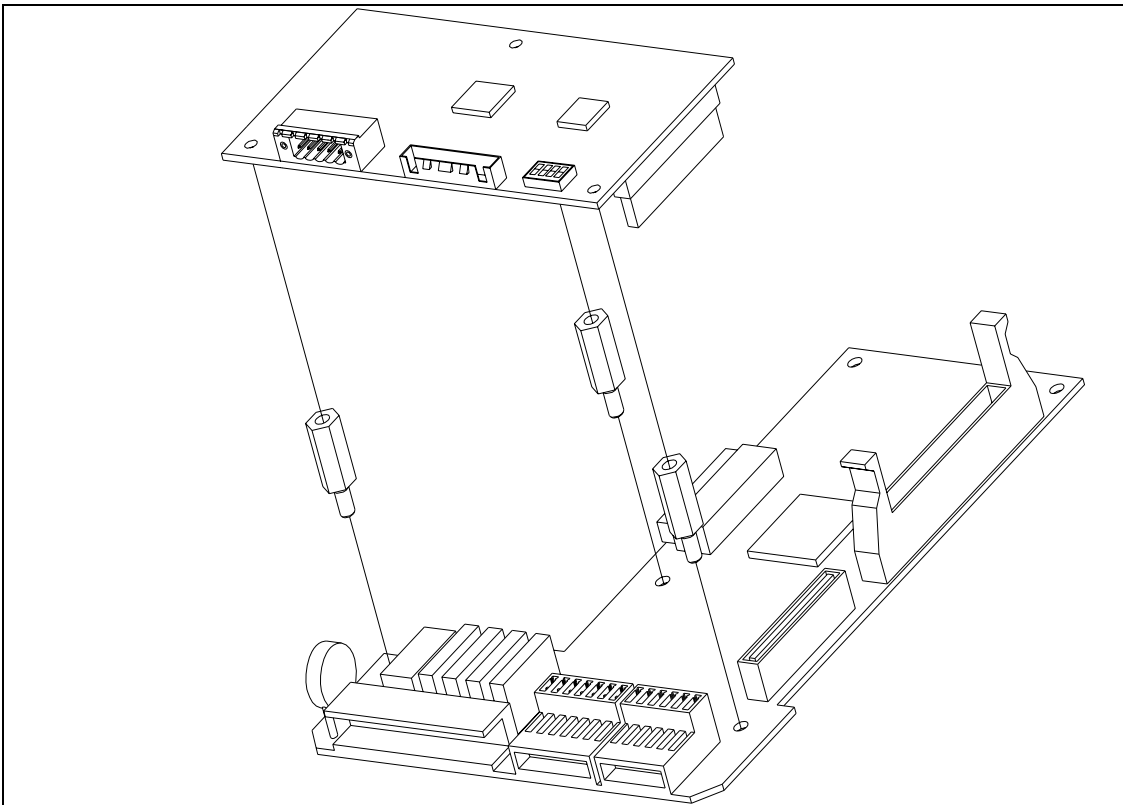

Figure 3. SV-iP5A RS485 Option Board Installation
- ① Connect RS485 option board connector to the option connector inside the inverter control board. (See Figure 3 and 4). Make sure that the support is well connected. If the position of the support is not right, it means that the option board is not connected correctly.
- ② Power up the inverter after verifying the option board is installed properly.
- ③ When powering up the inverter, CPU LED is blinking per second after all LEDs blink one after another.
- ④ If 'CPU LED' is not blinking, power down the inverter swiftly and check for the proper installation of the option board.